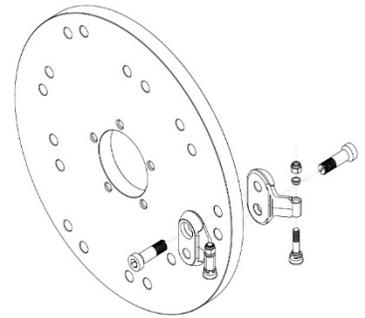

Figure 1.1
5. Slide the bolts through the empty holes in the wheel and thread them into the adjoining pocket's threaded holes. For now, do not torque just firm up the bolts until the pockets are seated. (Figure 1.1)